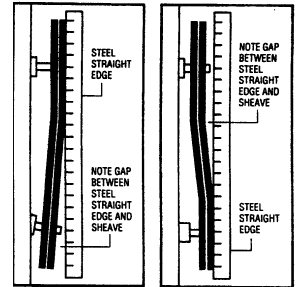

FIGURE 1 FIGURE 2
5. The two most common causes of misalignment are shown in the Figure 1 and Figure 2 to the right.